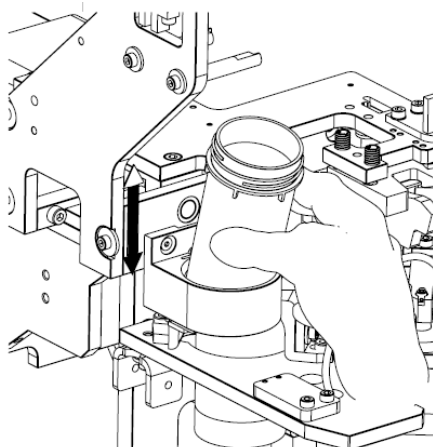

Figure 20 - Positioning of the Fixing Flask
- Insert the set between the rollers and make sure the part is centered, as shown in Figure 20 – Positioning the Filter + Pre-Filter set;